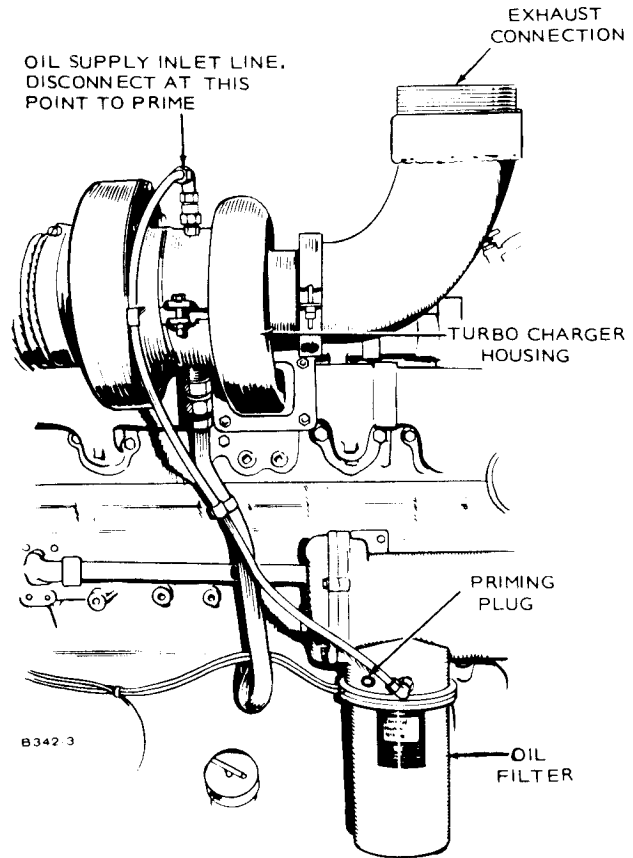

FIGURE 16. PRIMING TURBOCHARGER
1. Remove oil inlet line from turbo-charger housing (Figure 16), fill bearing housing with clean engine lubricating oil; replace line, secure.
3. Remove plug from head of oil filter housing (Figure 16) and connect a hand or motor-driven priming pump from a source of clean lubricating oil to the plug boss in filter housing.